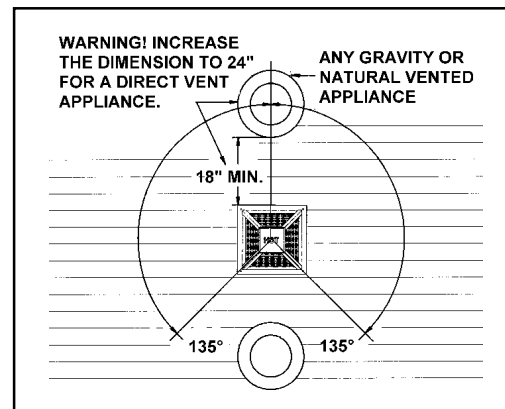

FIGURE 6
- 18" minimum from other gravity or natural appliance outlet vents when directly above or 135° to either side of center line. Figure 6.